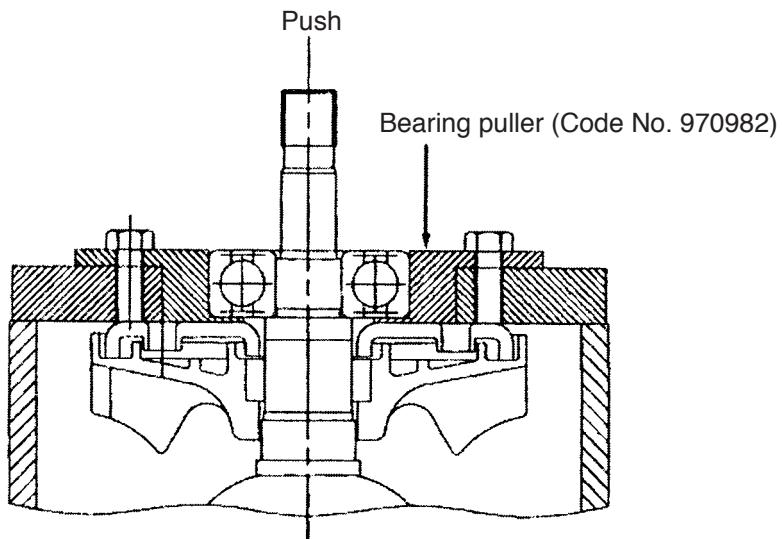

Fig. 11
6. After removing the two Seal Lock Hex. Socket Hd. Bolts M5 x 14 [1] <1>, the Armature [12] <12> can be extracted together with Bearing Cover (A) [11] <11> and the related parts.
8. For the models indicated in Fig. 11, the Ball Bearing 6301DDCMPS2L [9] <9> can be removed from the Armature [12] <12> by utilizing a J-204 bearing puller (special repair tool, Code No. 970982) as illustrated below. After the ball bearing has been removed, Bearing Cover (A) [11] <11> can be easily taken off.